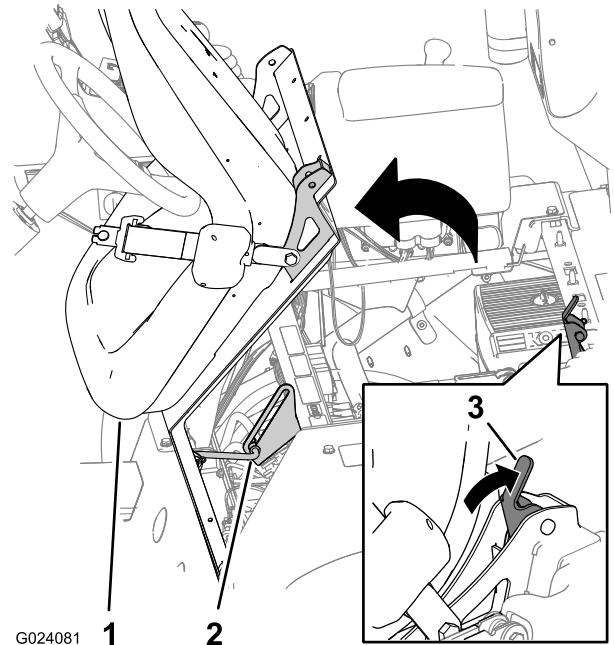

Figure 3
1. Unlatch the seat by pushing the seat-latch handle rearward (Figure 3).
2. Rotate the seat and seat plate forward until the end of the prop rod, at the prop-rod bracket, is at the bottom of the slot in the bracket (Figure 3).